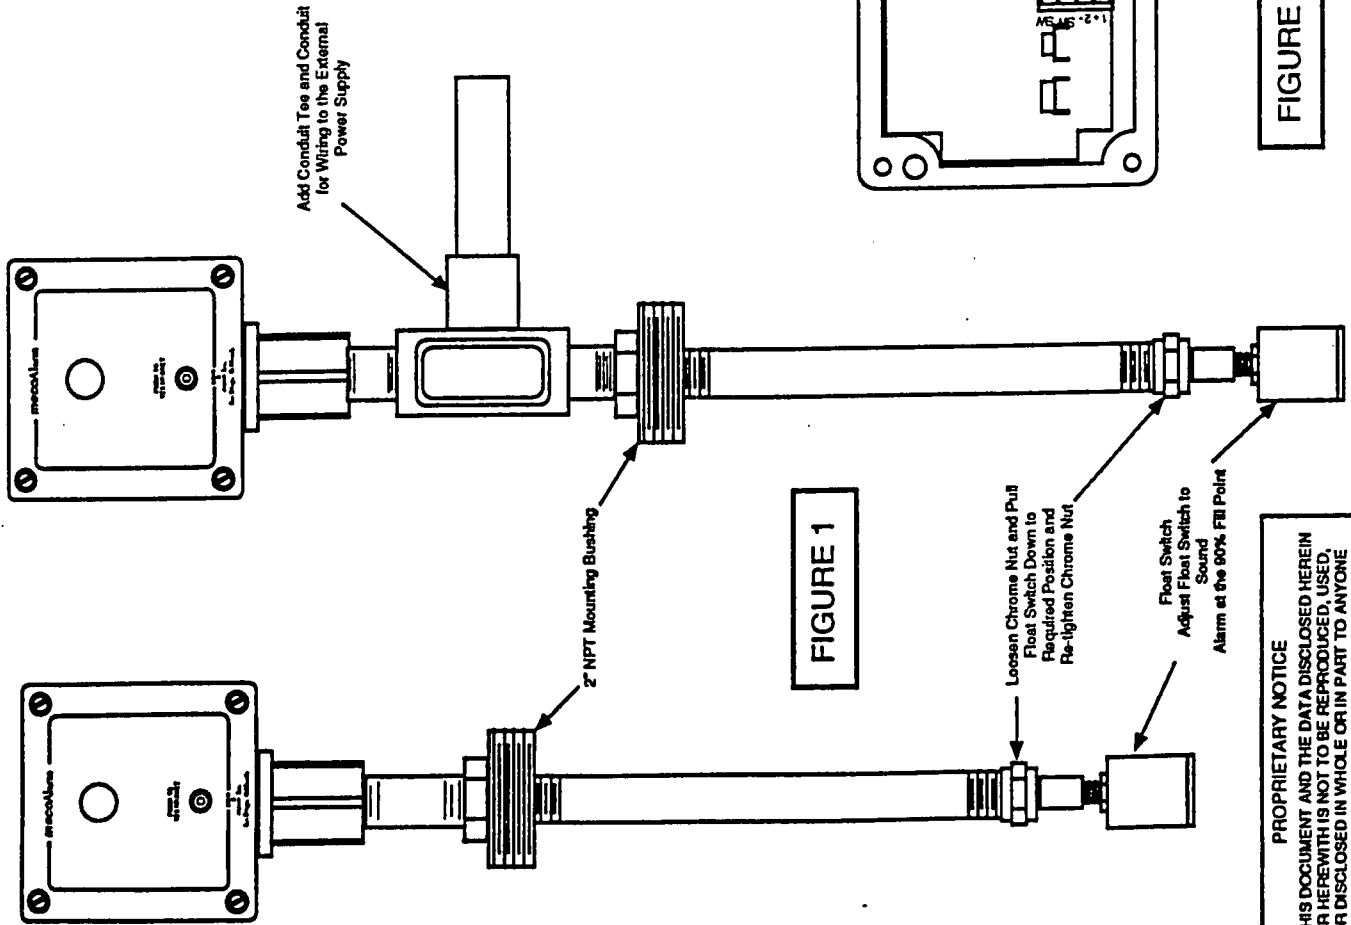

FIGURE 1
2. Install a conduit tee and conduit to the Non-Hazardous location that the power supply is located in (see Figure 1). Install the power supply in accordance with CD200051.